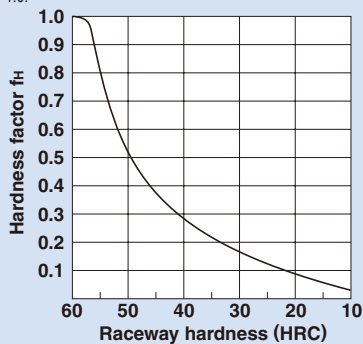

Fig. 1
- C : Basic dynamic load rating\*1 (N)
- PC : Calculated load (N)
- fH : Hardness factor (see Fig. 1)